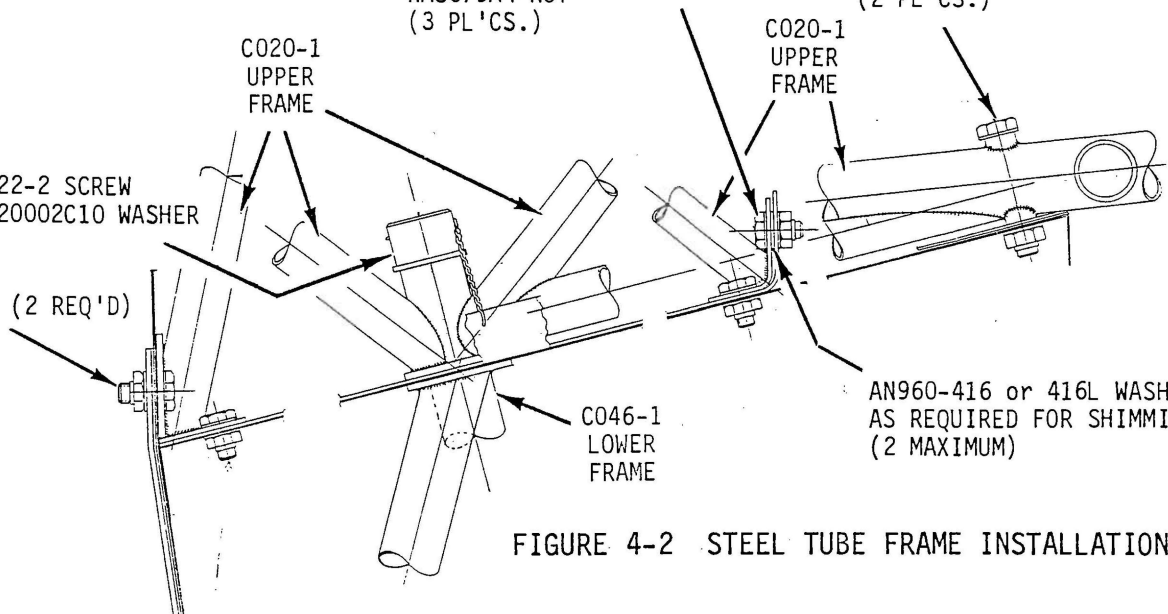
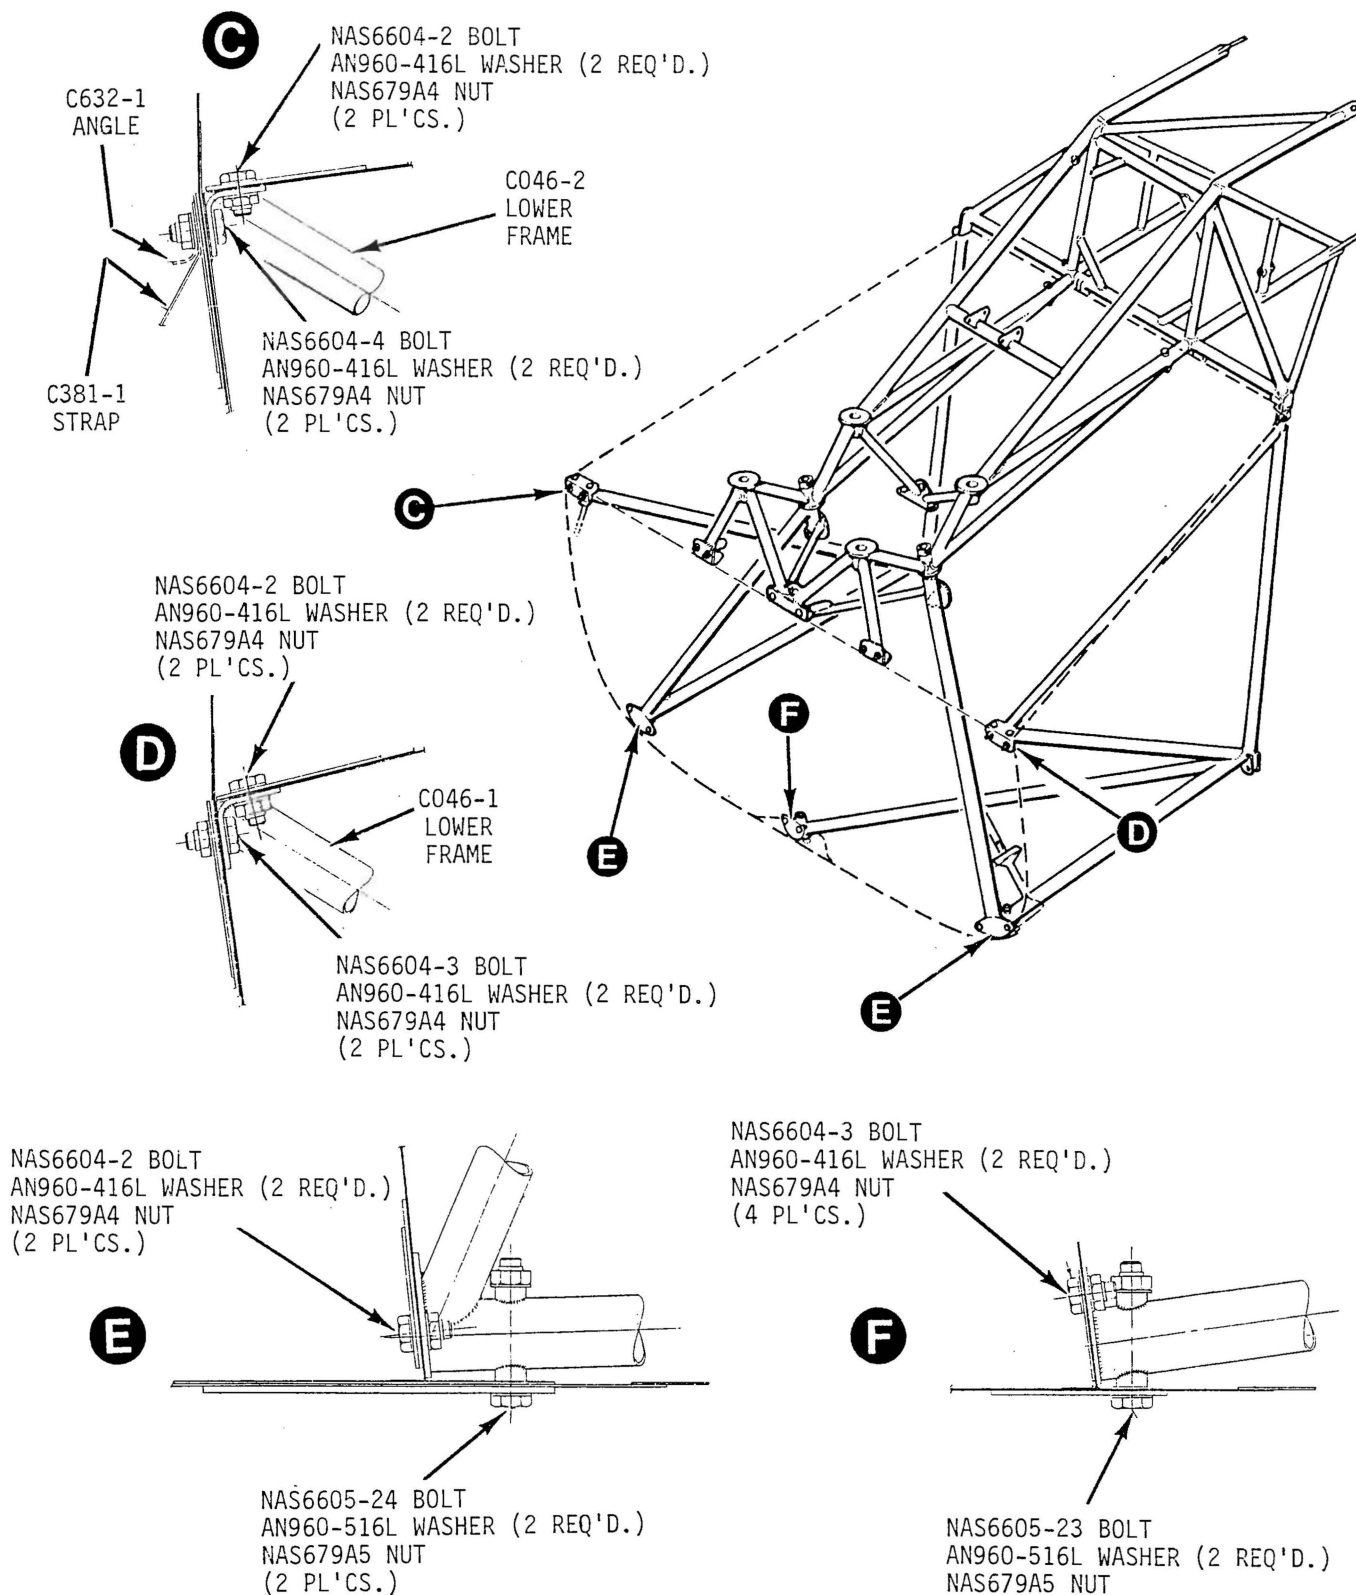
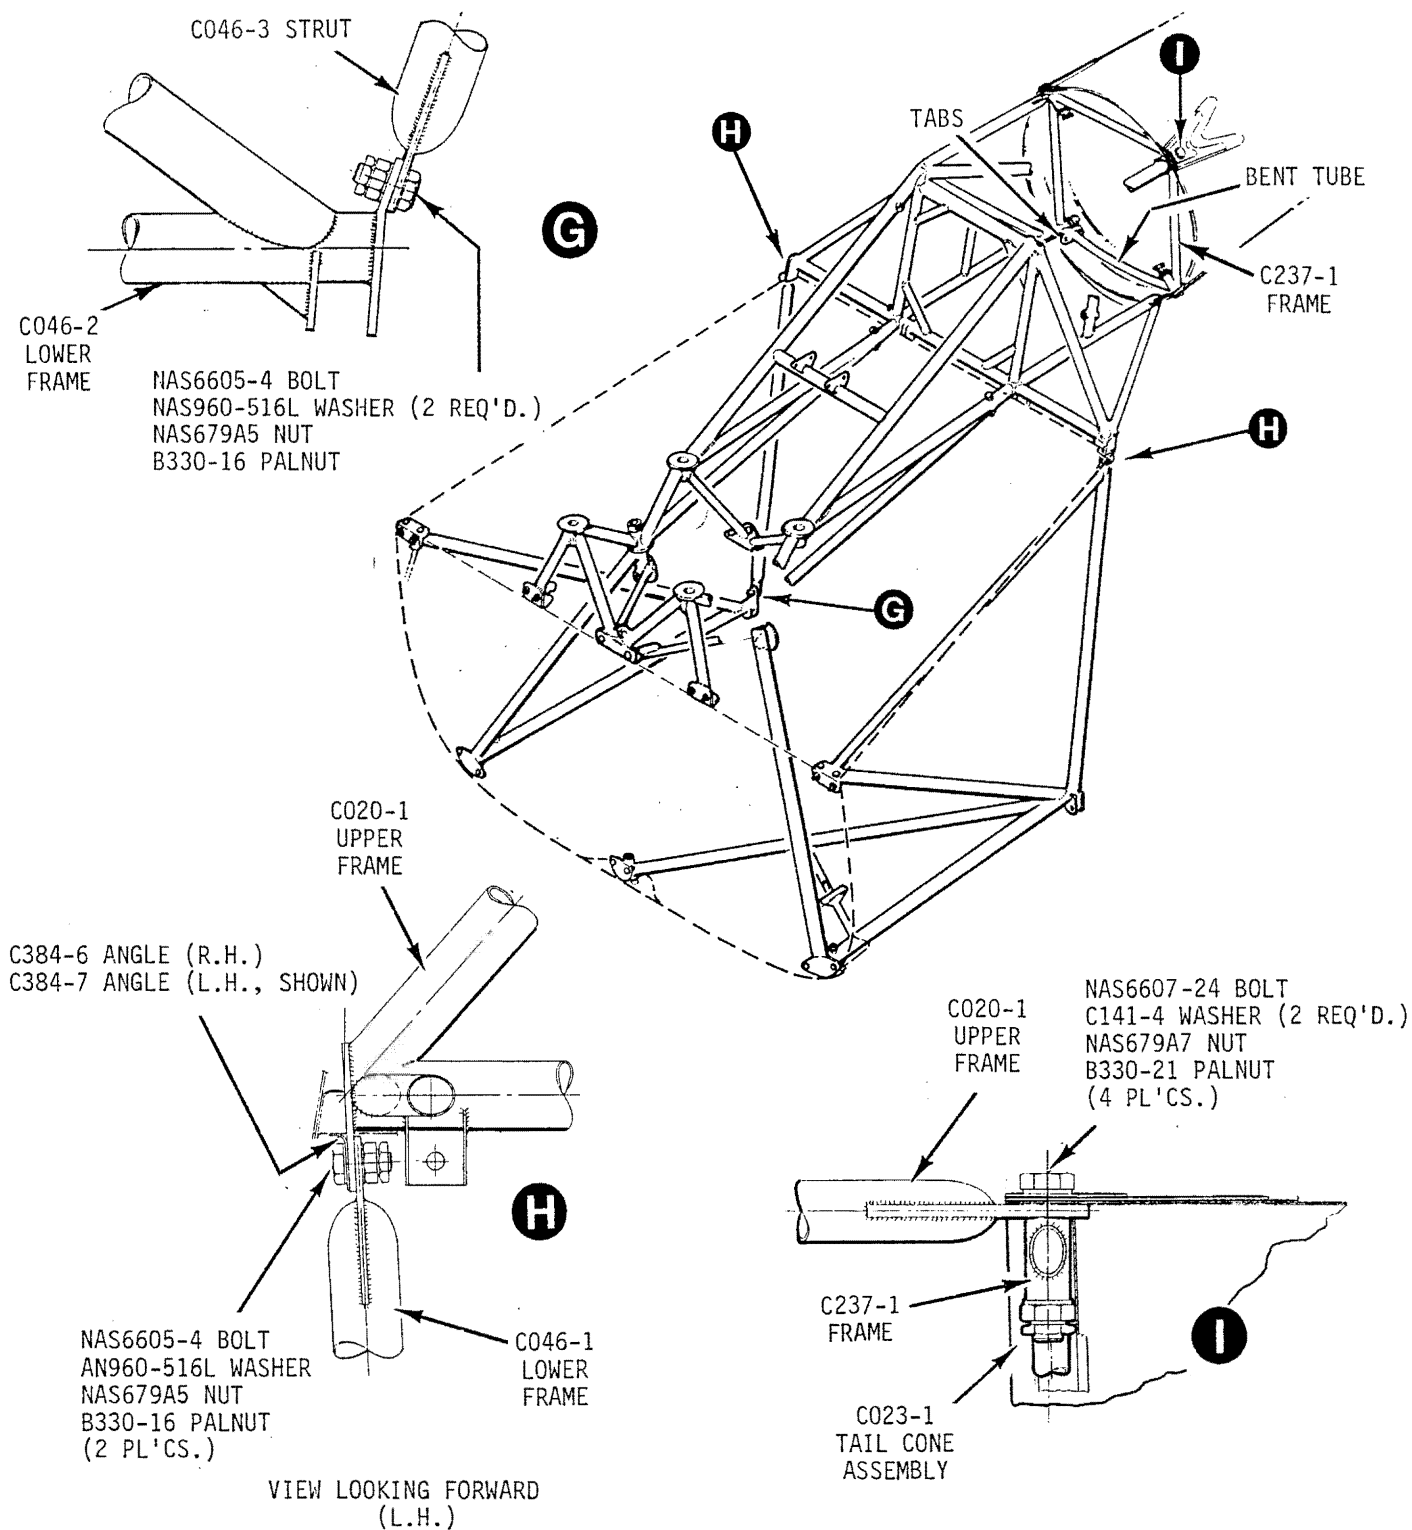

FIGURE 4-2 STEEL TUBE FRAME INSTALLATION
FIGURE 4-2A STEEL TUBE FRAME INSTALLATION
FIGURE 4-2B STEEL TUBE FRAME AND TAIL CONE INSTALLATION
- f) Disconnect the three forward mounting points (Figure 4-2A, Details D, E, and F) and the aft mounting point (Figure 4-2B, Detail H).
- h) Remove the NAS6604-2 bolt and the C722-2 cap screw connecting the upper frame to the lower left frame assembly (Figure 4-2, Details A & B).
- b) Position frame for installation. Install all hardware per Figure 4-2, Detail B, Figure 4-2A, Details D,E, and F, and Figure 4-2B, Detail H. Install all hardware before torquing.
6. Disconnect the two forward mounting points (Figure 4-2A, Details C and E).
7. Remove the NAS6604-2 bolt and the C722-2 cap screw connecting the upper frame to the lower right frame assembly (Figure 4-2, Details A and B).
2. Position frame for installation. Install all hardware per Figure 4-2, Details A and B and Figure 4-2A, Details C and E. Install all hardware before torquing.
9. Remove the NAS6605-4 bolts at the aft outboard corners of the horizontal firewall (Figure 4-2B, Detail H).
10. Remove all NAS6600 bolts and the C722-2 cap screws shown in Figure 4-2, Details A and B.
2. Position upper frame for installation. Install all hardware per Figure 4-2, Details A and B and Figure 4-2B, Detail H. Install all hardware before torquing.
1. Install strut and hardware as shown in Figure 4-2B, Details G and H.